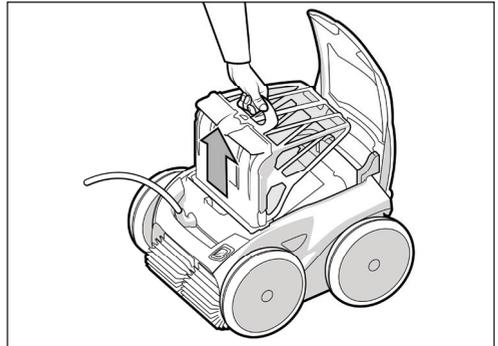

Figure 12. Remove Filter Canister Assembly
4. Remove the filter canister assembly from the cleaner body and separate the two canisters. See Figure 12.